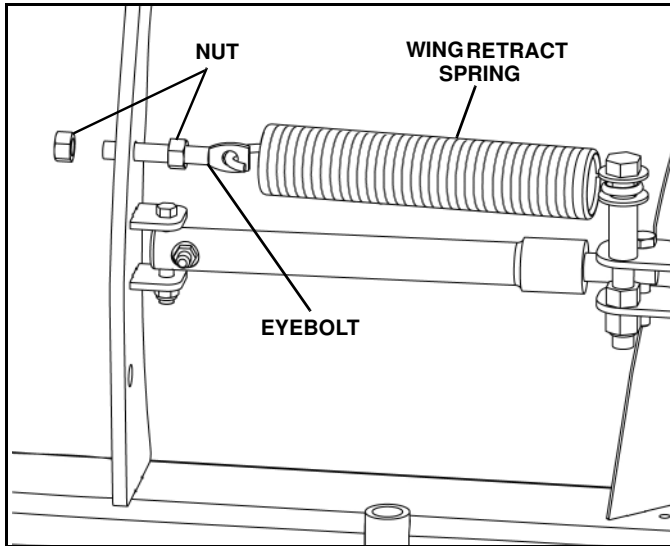

Figure 1-17
6. Install a 5/8" x 4-1/2" eyebolt on the opened side of the spring. Thread a 5/8" nut onto the eyebolt one half way down the threads. Insert the eyebolt into the blade rib and thread a second 5/8" nut onto the eyebolt. Tighten the nut until a .015" feeler gauge can pass between two or more coils of the retract spring. DO NOT exceed a maximum clearance of .030" between the coils. (See Figure 1-17)